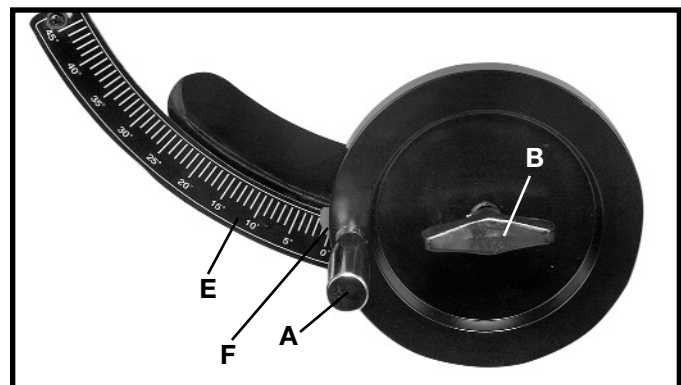
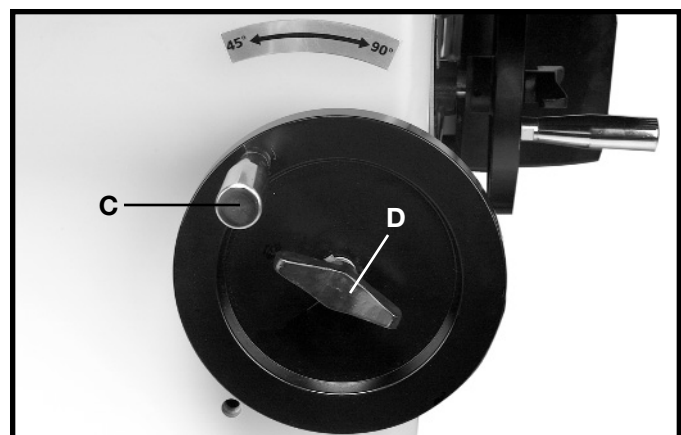

Fig. 30
Fig. 31
The saw blade is raised and lowered with the front handwheel (A) Fig. 30. With the exception of hollow ground blades, the blade should be raised 1/8" to 1/4" above the top surface of the material being cut. With hollow ground blades, the blade should be raised the maximum to provide greater clearance. To raise the saw blade, loosen lock knob (B) Fig. 30, and turn the handwheel (A), clockwise. To lower the saw blade, turn handwheel (A) counterclockwise.
The saw blade is locked at any height by turning the lock knob (B) Fig. 30, clockwise. Due to the wedge action of this locking device, only a small amount of force is required to lock the blade raising mechanism securely. Any added force merely puts unnecessary strain on the locking device. Limit stops for raising or lowering are permanently built into the mechanism and need no further adjustment.
To tilt the saw blade to the desired angle, loosen lock knob (D) Fig. 31, and turn handwheel (C). A pointer (F) Fig. 30, indicates the angle of tilt on scale (E), which is marked in one-degree increments. To lock the saw blade in the desired angle of tilt, tighten lock knob (D) Fig. 30.